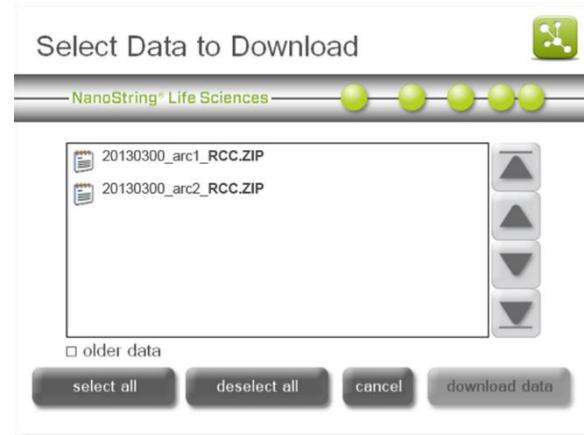

Figure 99: The ‘Select Data to Download’ screen.
The ‘Select Data to Download’ screen will appear (**Figure 99**).
- In the ‘Select Data to Download’ screen, select the ‘older data’ option box (located below the file selection area; **Figure 99**).